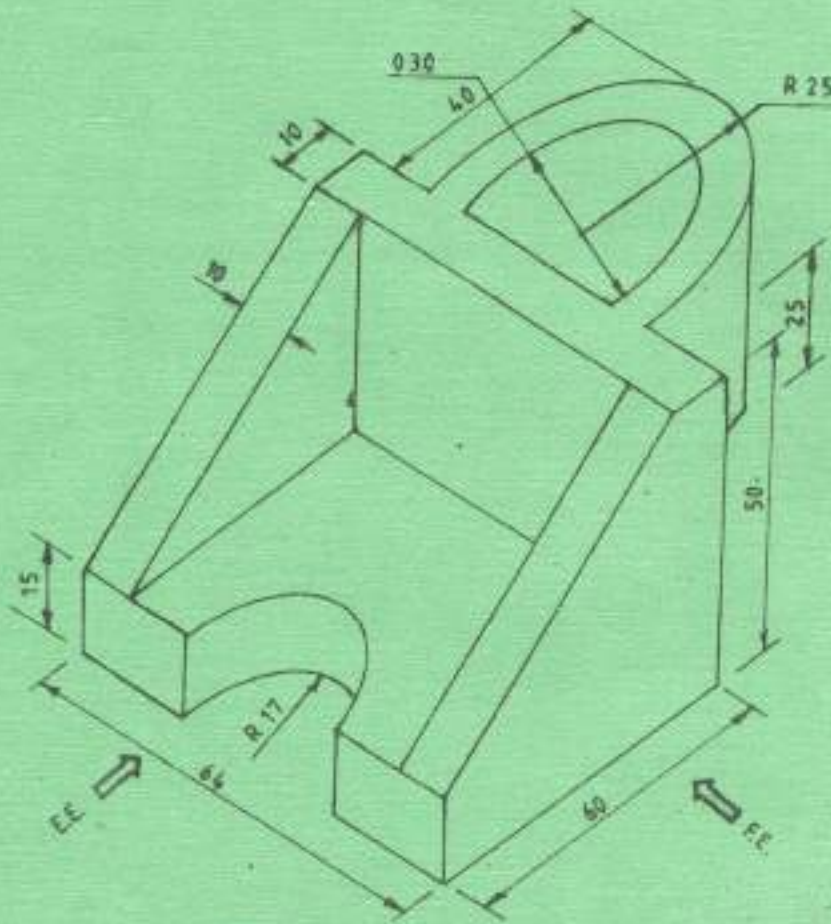

Fig. 2
3. Figure 2 shows an isometric drawing of a machine block. Using third angle projection, draw the following views full size: